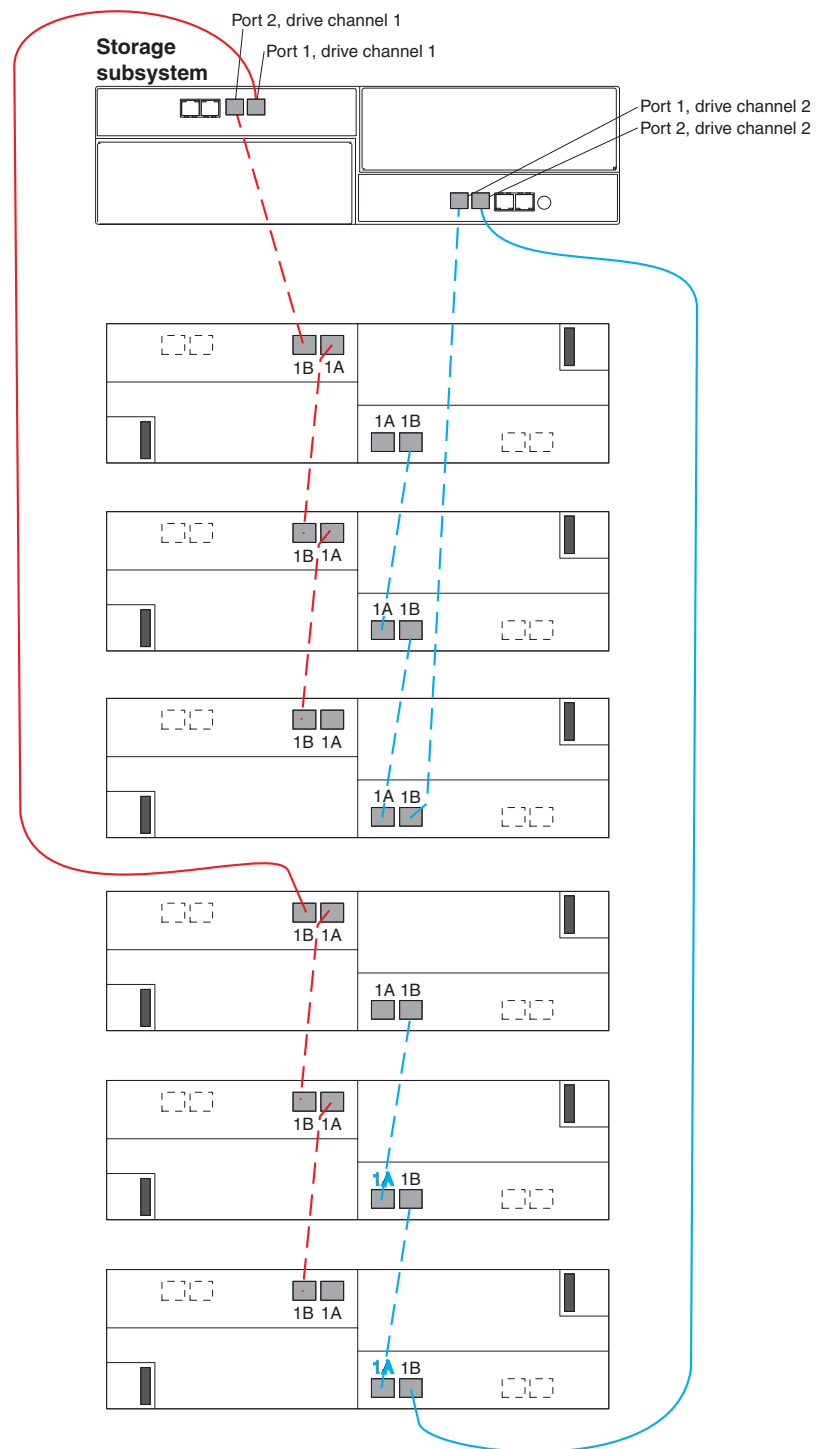

Figure 41. Cabling for one DS3950 and up to six storage expansion enclosures
If you are cabling one DS3950 storage subsystem and up to six storage expansion enclosures, Figure 41 shows the correct cabling topology.
7. When connecting six storage expansion enclosures to a DS3950, use all ports in both drive channels. See Figure 41 on page 62 for the cabling topology.